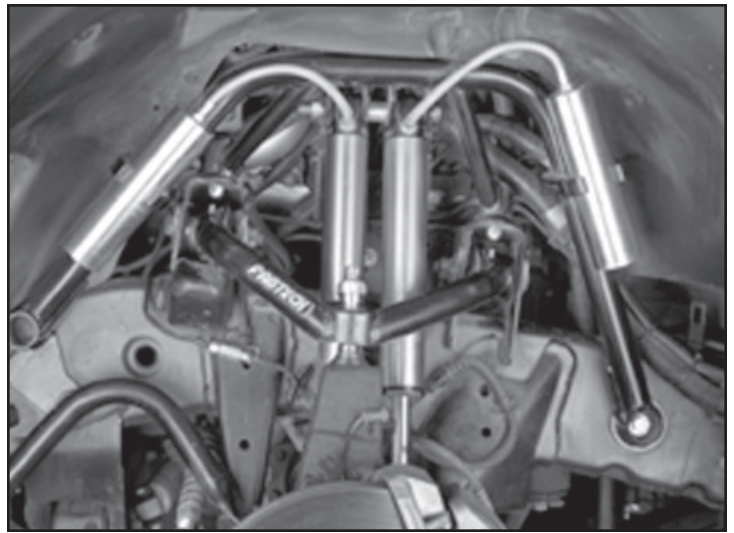

**FIGURE 3**
- SEE FIGURE 3 FOR STEPS 9-14**